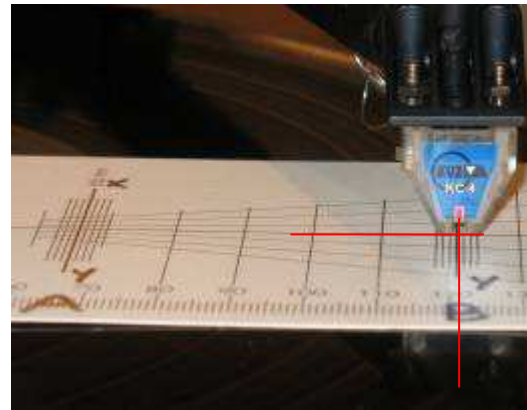

Fig.18 Along axis “X-Y”alignment at B
11. Recheck alignment of the cantilever at zero point B. If cantilever is not aligned here, rotate protractor to find where on line “x- y” the cantilever is aligned again. (Fig.18&15)